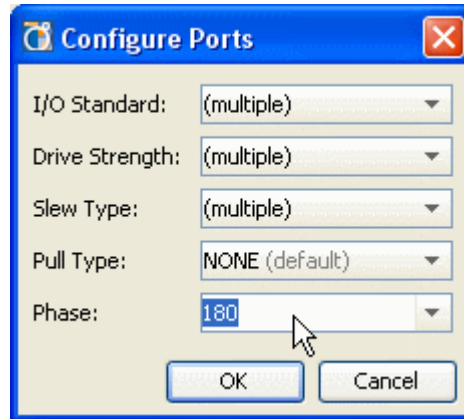

Figure 8-35: Configure Ports Dialog Box
2. In the I/O Ports view, Package Pins view, or SSN view, select the **Configure I/O Ports** popup menu command as shown in Figure 8-35, page 273.